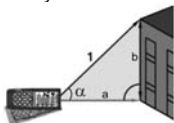

Fig. 12: Distance test with trigonometric calculation
3. Position the instrument in the point (1) corresponding to the value of the desired measuring angle " α " (varying between $\pm 65^\circ$ with transversal tilt not higher than $\pm 10^\circ$) shown on the first display and press the key or the side **MEAS** key (see Fig. 12)
4. The value of distance "1" is shown on the resulting display. The value of distance "a" is shown on the third display, calculated as: $a = (1) * \cos \alpha$. The value of distance "b" is shown on the second display, calculated as: $b = (1) * \sin \alpha$ (see Fig. 12)